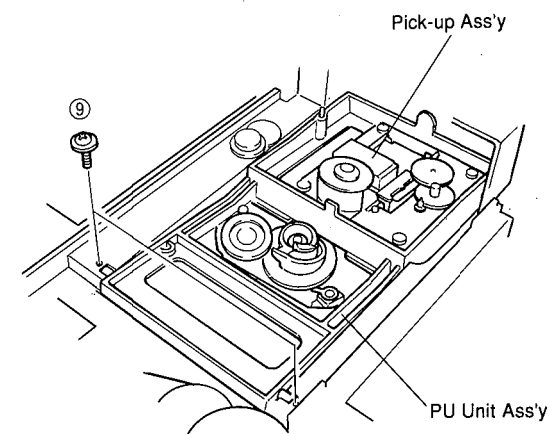

Fig. 3
- Remove 2 screws (9) and then remove the PU Unit Ass'y in Fig. 3.